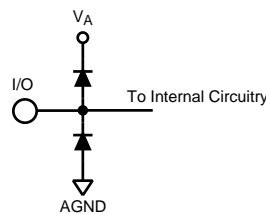

Figure 2.
- (1) The inputs are protected as shown below. Input voltage magnitudes above  $V_A$  or below GND will not damage this device, provided current is limited per Note 4. However, errors in the A/D conversion can occur if the input goes above 2.6V or below GND as described in the Operating Ratings section. See Figure 2.
- (2) With a full scale differential input of  $2V_{P-P}$ , the 12-bit LSB is  $488\ \mu\text{V}$ .
- (3) Typical figures are at  $T_A = 25^\circ\text{C}$  and represent most likely parametric norms at the time of product characterization. The typical specifications are not ensured.
- (4) The input capacitance is the sum of the package/pin capacitance and the sample and hold circuit capacitance.
- (2) With a full scale differential input of  $2V_{P-P}$ , the 12-bit LSB is  $488\text{ }\mu\text{V}$ .
- (4) This parameter is specified in units of dBFS - indicating the value that would be attained with a full-scale input signal.
- (2) With a full scale differential input of  $2V_{P-P}$ , the 12-bit LSB is 488  $\mu\text{V}$ .
- (2) With a full scale differential input of  $2V_{P-P}$ , the 12-bit LSB is 488  $\mu V$ .
- (3) Typical figures are at  $T_A = 25^\circ C$  and represent most likely parametric norms at the time of product characterization. The typical specifications are not ensured.
- (4) This parameter is ensured by design and/or characterization and is not tested in production.